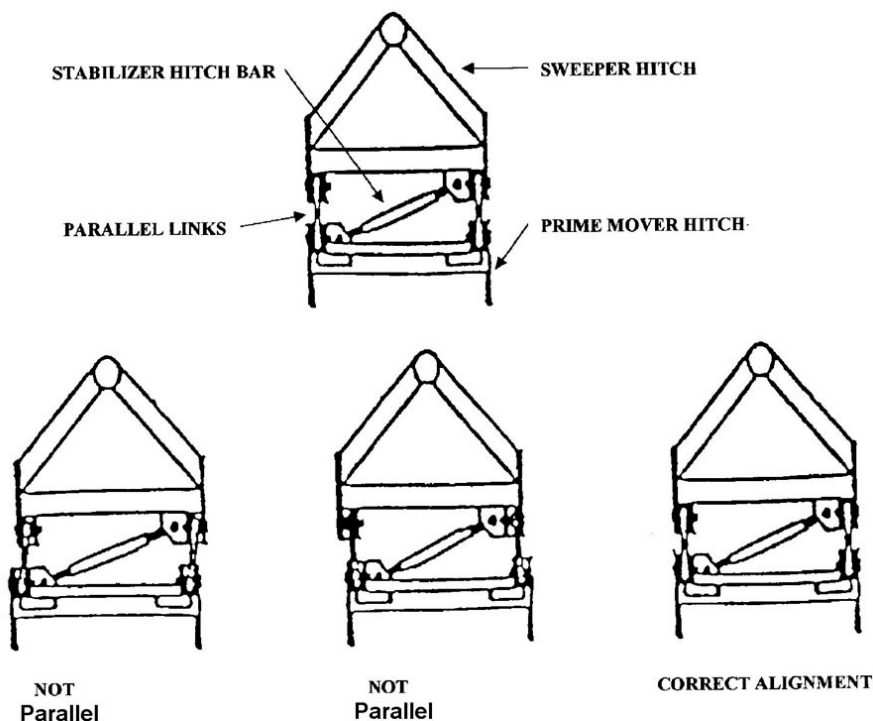

Figure 3-35. Hitch alignment.
1. Visually check to see if the prime mover hitch and quick attach hitch are lined up at the parallel links (fig. 3-35).